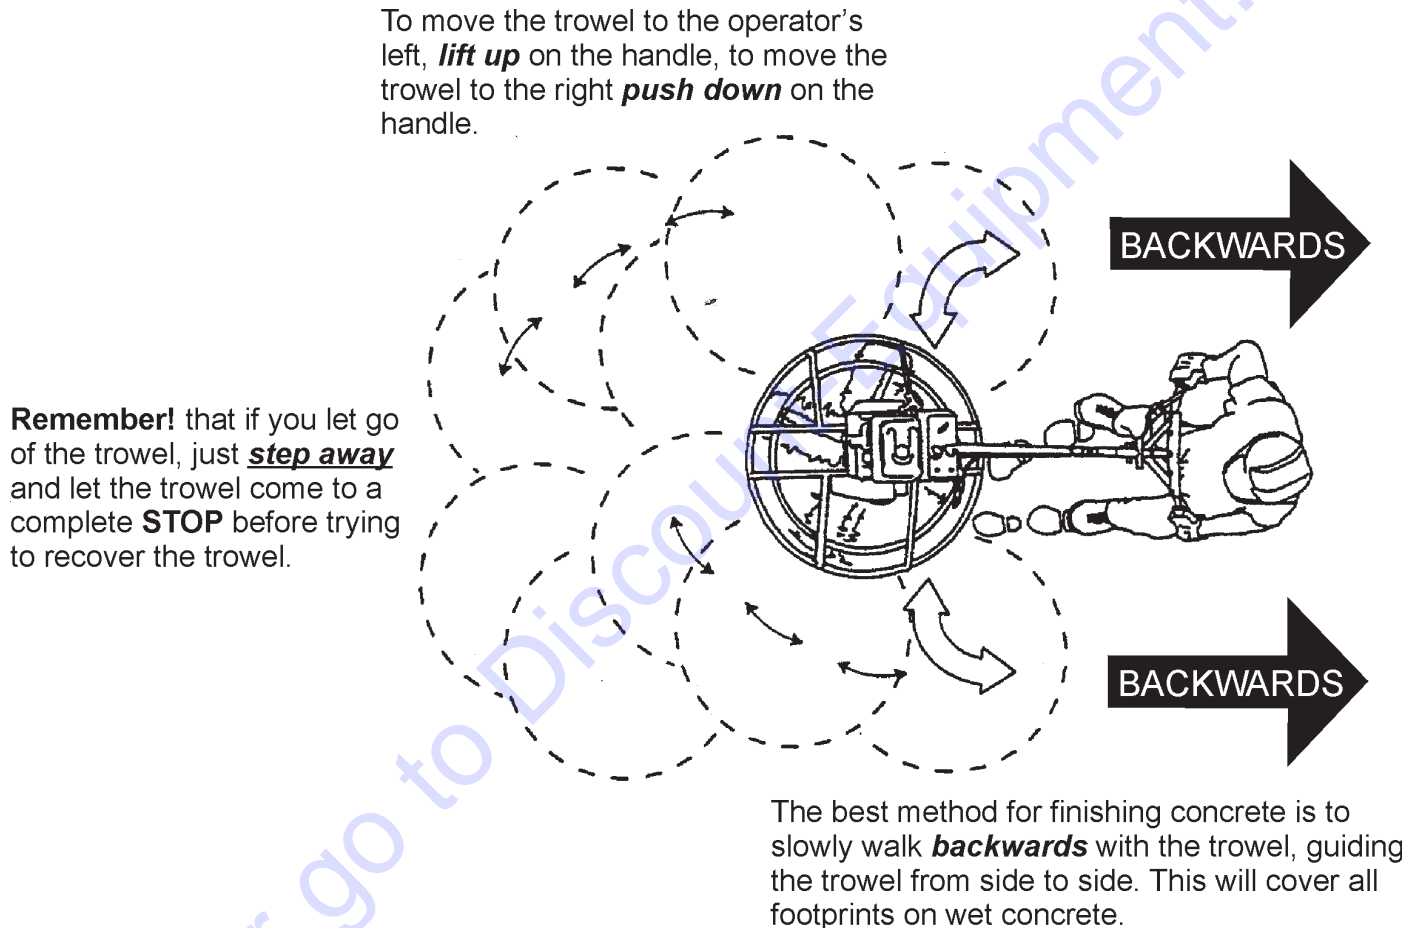

Figure 19. Maneuvering The Trowel
3. The best method for finishing concrete is to slowly walk backwards (Figure 19) with the trowel, guiding the trowel from side to side. This will cover all footprints on wet concrete.
Figure 19 below illustrates a typical walk-behind trowel application. Practice maneuvering the trowel. The trick is to let the trowel do the work.